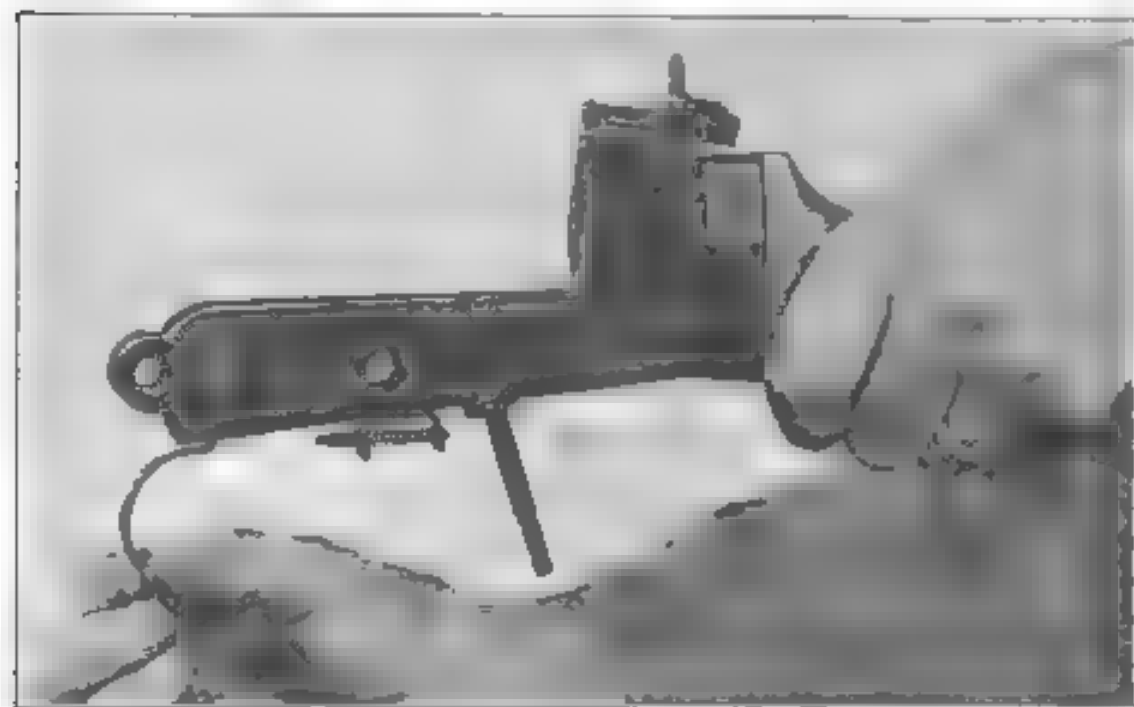

Fig. 103
e) **Pistol grip.** — Remove the cleaning kit from the pistol grip, — this is released by turning the spring detent (fig. 103)